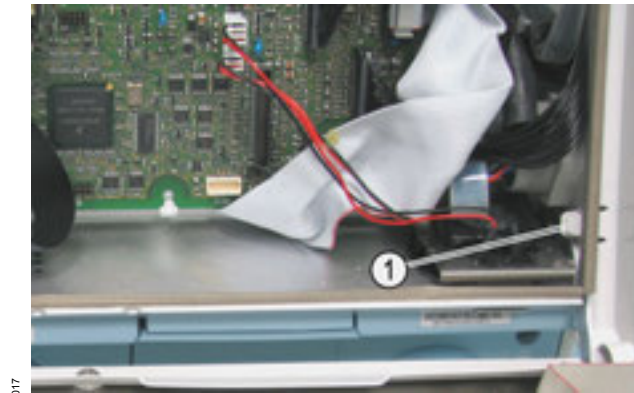
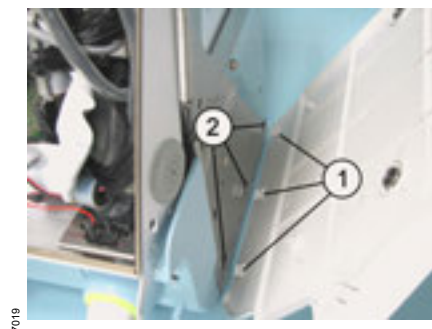

Fig. 59 Front right side view of device: Tabs
Fig. 60 Right side view of device: Tabs and recesses
- 2 Press the two tabs together (Fig. 59/1) and at the same time push the tabs out of the frame.
- 3 Raise the side panel slightly and remove the bottom tabs (Fig. 60/1) of the side panel from the recesses (Fig. 60/2) in the frame.
- 1 Insert the bottom tabs (Fig. 60/1) of the side panel in the recesses (Fig. 60/2) in the frame, push the side panel down slightly and push the top tabs (Fig. 59/1) into the frame.